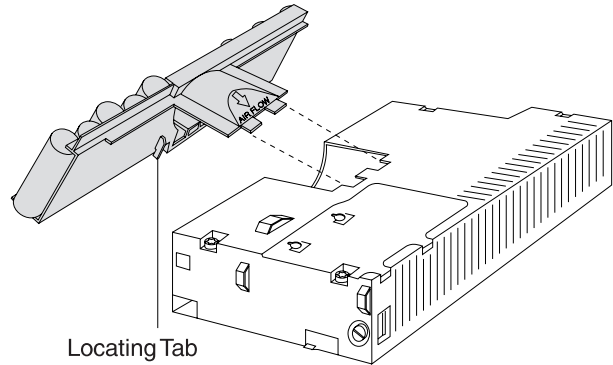

Figure 1-21. Installing the Plenum and Battery Assembly
- 4 Install the new battery and plenum assembly onto the power supply by aligning the tabs at the top of the plenum with the cutouts in the top of the power supply. Pivot the assembly downward while aligning the locating tabs at the bottom of the plenum with the cutouts in the side of the power supply. Press downward until the plenum snaps into place. See Figure 1-21.